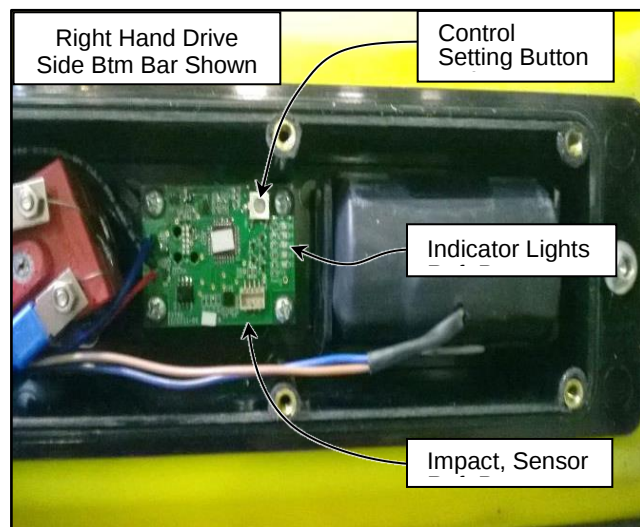

Figure 45
5. Locate and identify the control setting button on the sensor. (See Figure 45)